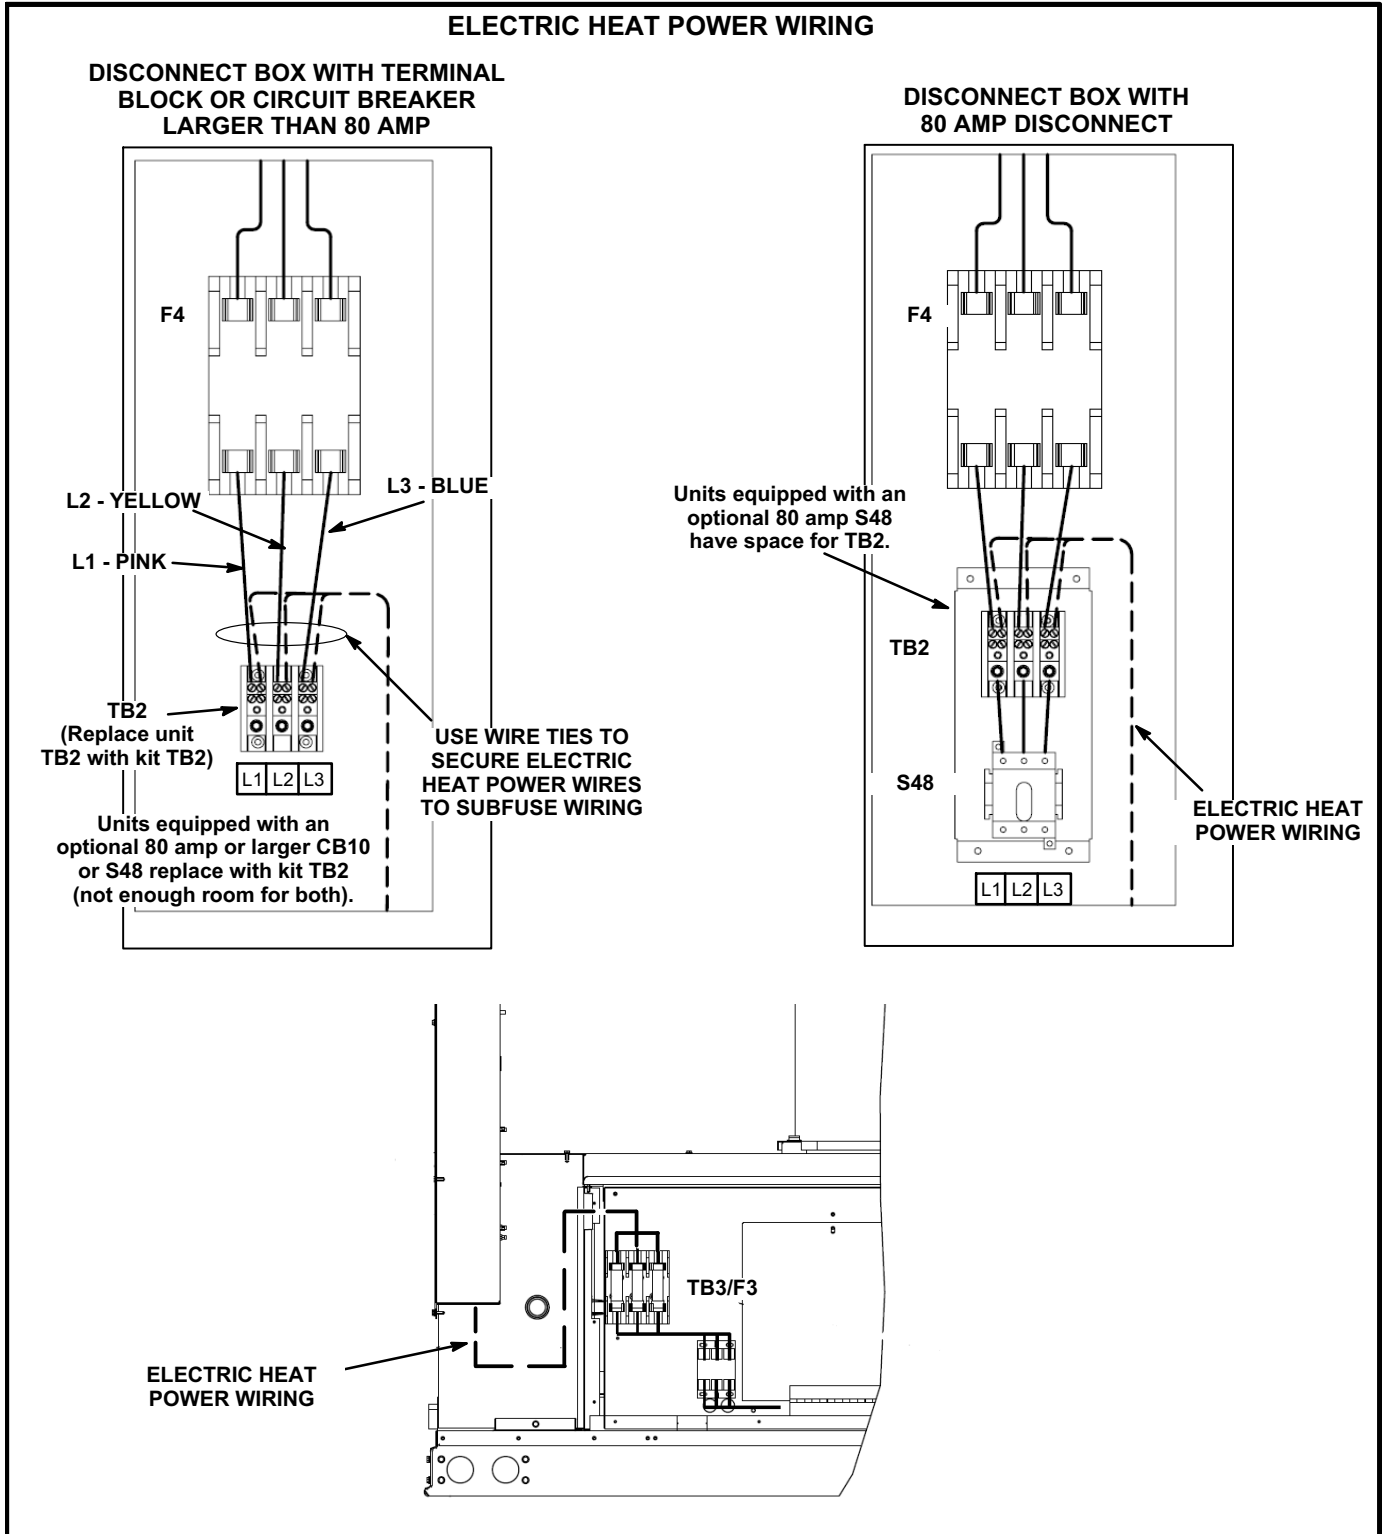
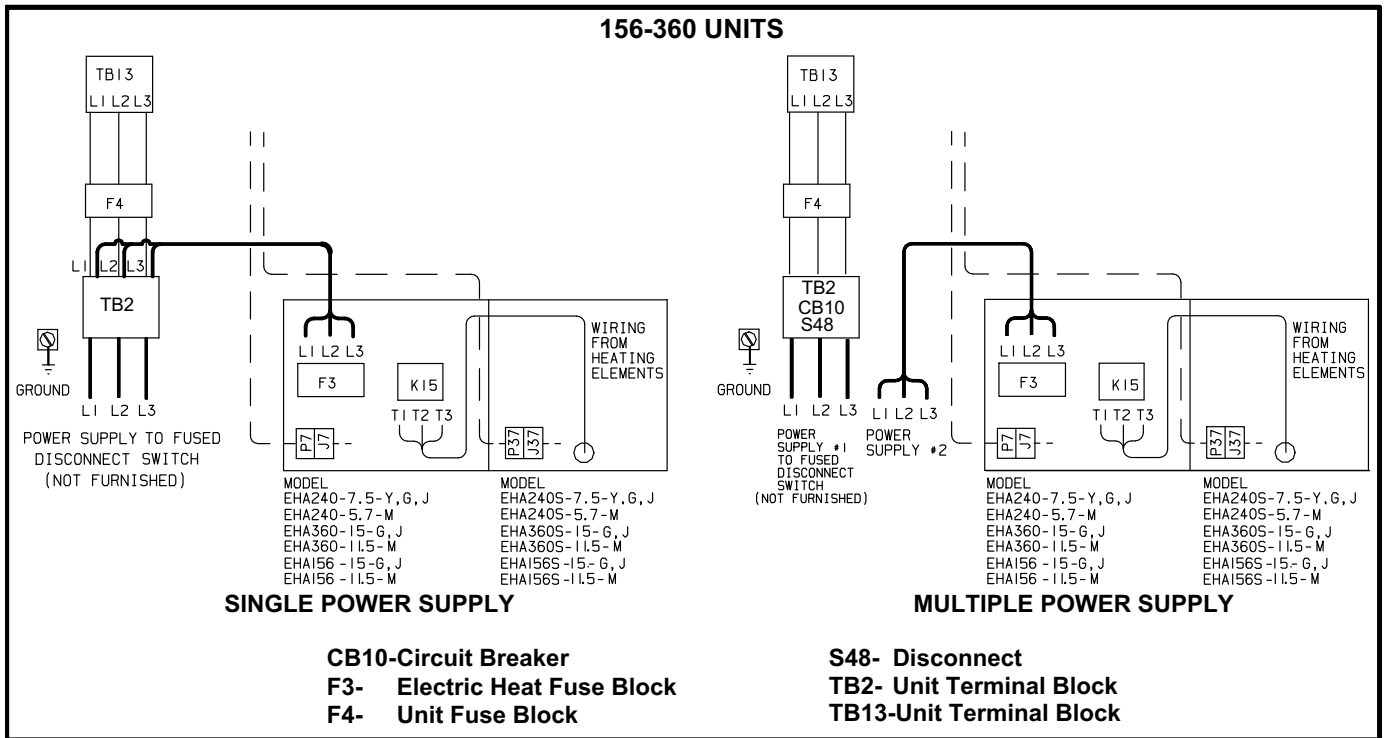

FIGURE 5
FIGURE 6
- 2- Connect electric heat power wiring to unit terminal block TB2 as shown in figure 5. Also see figure 6, 7, or 8 depending on the options included on the electric heat assembly.